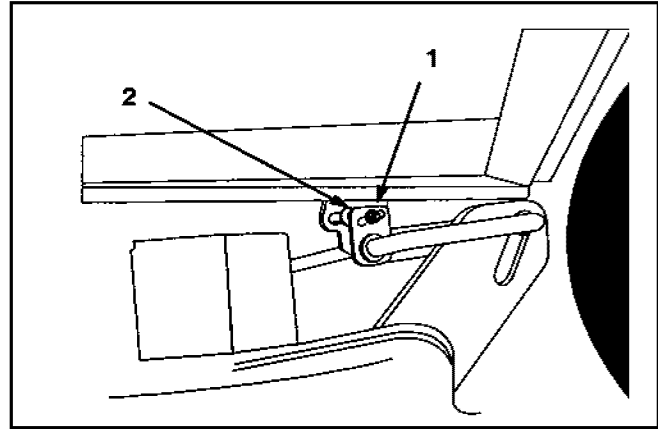

Figure 52 260_38_1.TIF
1. Loosen adjustment bolt on one side of the tractor and rotate hanger bracket to raise or lower mower (Figure 52).